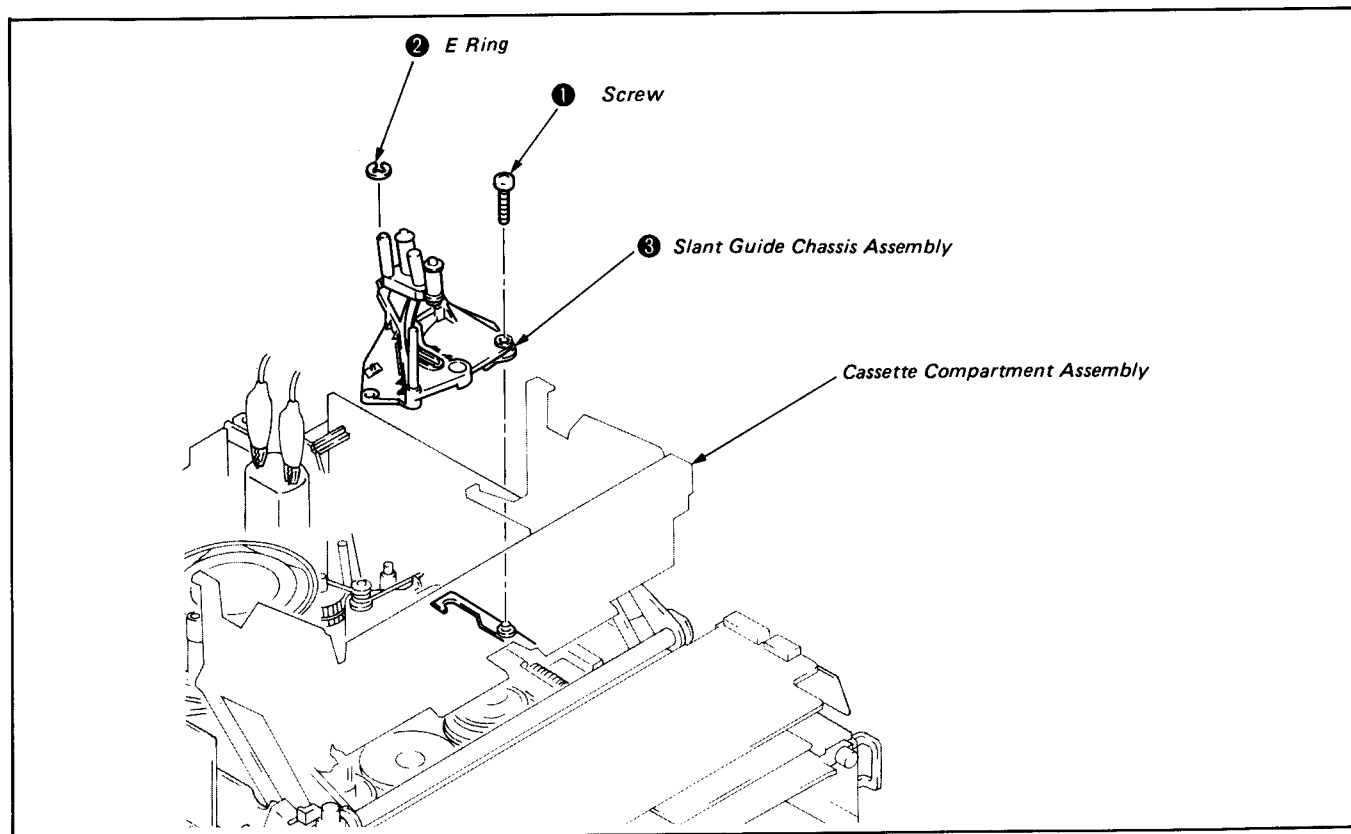

Fig. 8-27.
- 3) Remove the screw ① and E ring ②.
- 4) Remove the slant guide chassis assembly ③. (See Fig. 8-27.)
- 3) Refit the E ring ② and tighten the screw ①. (See Fig. 8-27.)